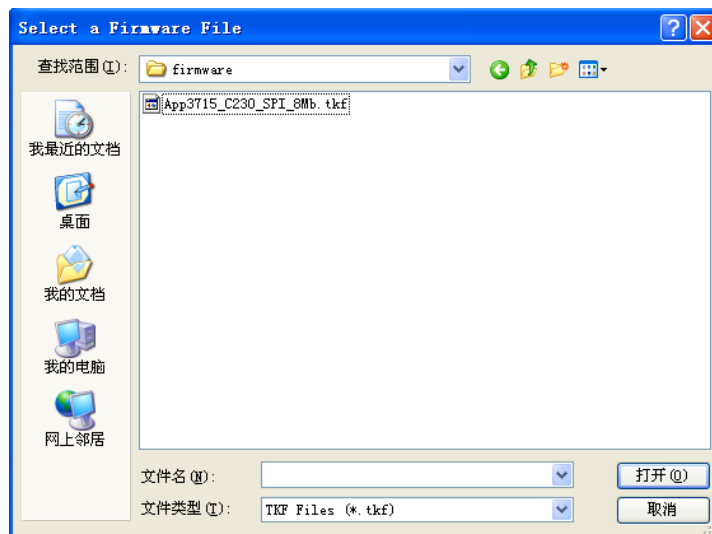

Figure 3-2 Window of Selecting a Firmware File
- 4) On the top of the window, click Upgrade ONU and find a file to be upgraded in the computer shown in the Figure 3-2;